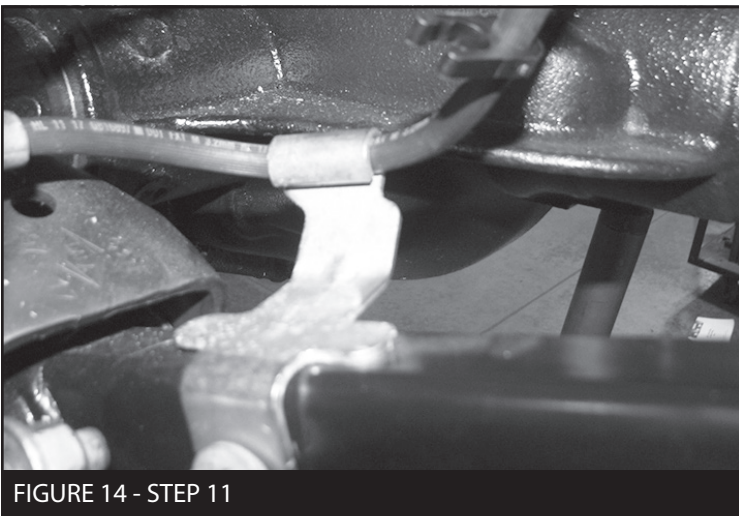

FIGURE 14 - STEP 11
11. Reconnect all brake line brackets with the factory hardware and torque 29 ft-lbs. NOTE: Bend the lower link arm brake line bracket upward an inch to give the line some relief at full extension. SEE FIGURE 14